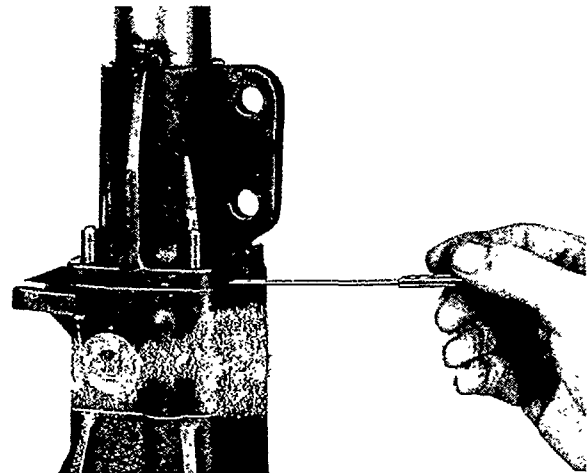

Figure 18
12. Locate the lower thrust washer over the valve core spline onto the valve housing oil seal and with no shims in position, assemble the steering shaft and shaft housing to the control valve. Ensure that the shaft housing is correctly seated and determine the gap between the two housings with feeler gauges as shown in Figure 18. Add 0.005 in. (0.13 mm.) to this and select shims to within 0.0025 in. (0.064 mm.) of the resultant value.